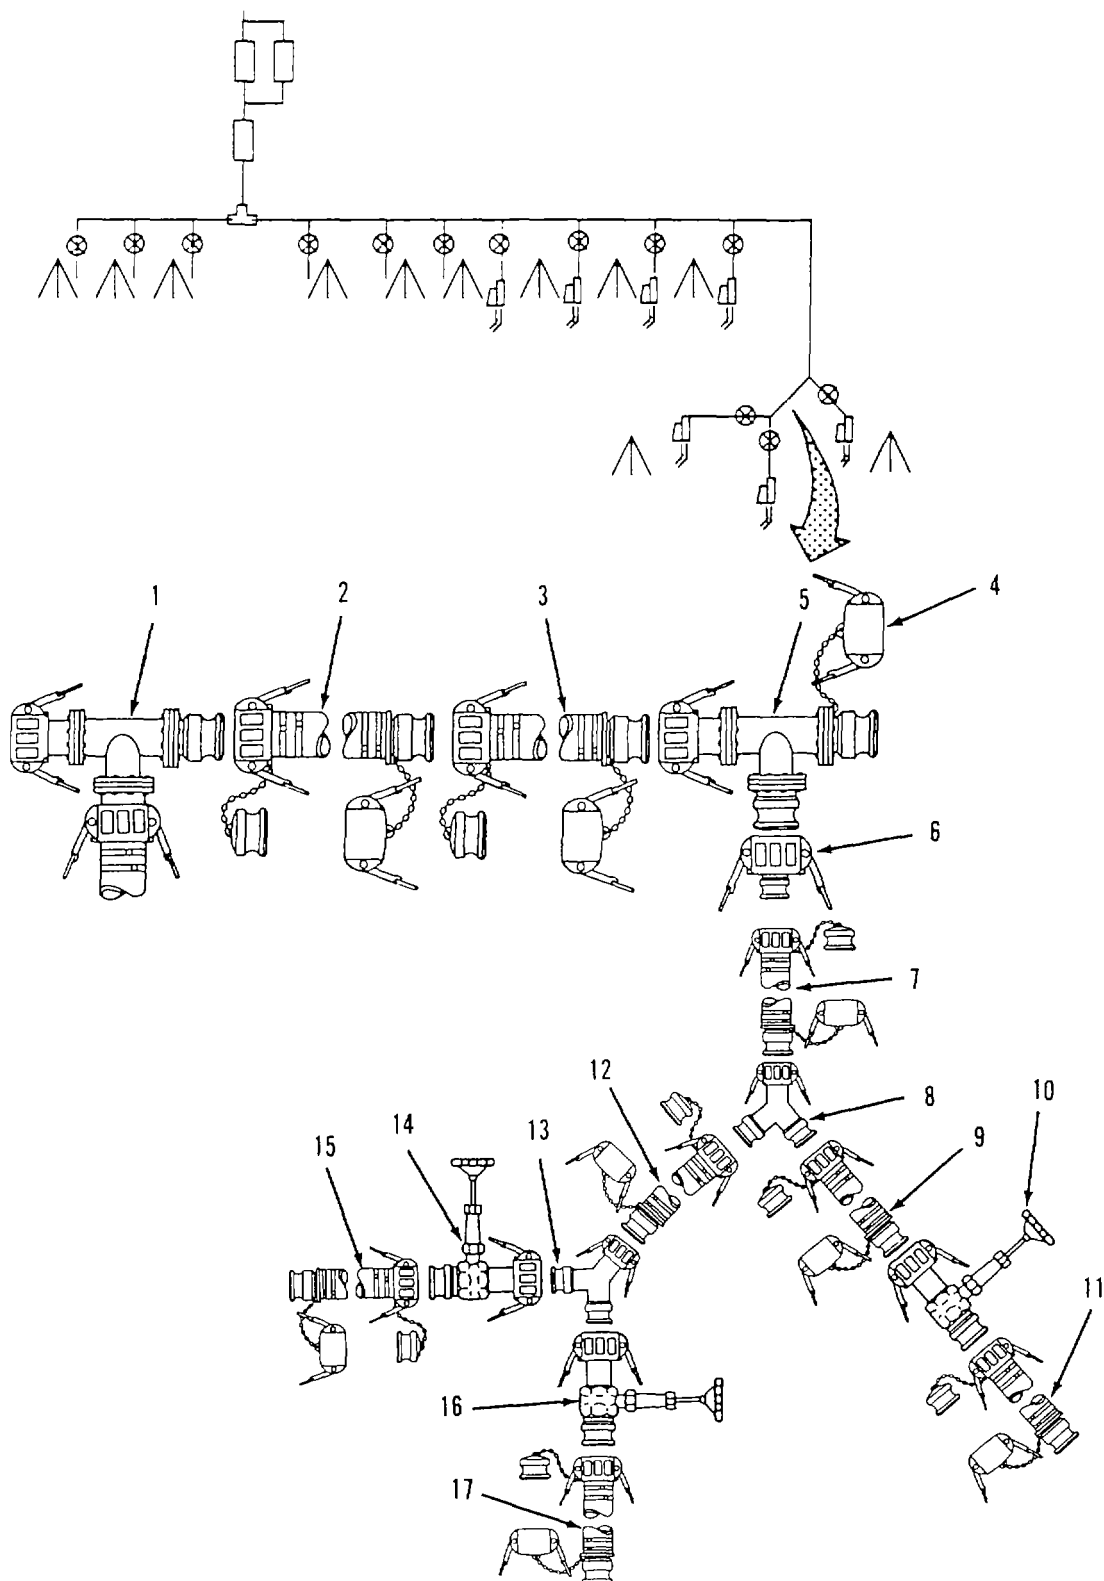

Figure 2-27. Bag Filter Connection Kit Disassembly.
- (4) Disconnect regulator (5) from 1 inch x 10 foot discharge hose (4).
- (5) Disconnect two 1 inch x 10 foot discharge hoses (3 and 4) from adapter (2).
- (6) Disconnect adapter (1-½ inch female x 1 inch male) (2) from 1-½ inch x 25 foot discharge hose (1) (from bag filler connection kit).
- (7) Repeat steps 1 through 6 for remaining hose and nozzle kits.
- (8) Drain and allow components to dry.
- (9) Install caps and plugs on couplings (para 2-10c).
c. Disassemble Bag Filler Connection Kits. Refer to figure 2-27.**WARNING**
- (1) Disconnect 1-½ inch x 25 foot discharge hose (17) from 2 inch gate valve (16).
- (2) Disconnect 2 inch gate valve (16) from wye (13).
- (3) Disconnect 1-½ inch x 25 foot discharge hose (15) from 2 inch gate valve (14).
- (4) Disconnect 2 inch gate valve (14) from wye (13).
- (5) Disconnect wye (13) from 2 inch x 20 foot discharge hose (12).
- (6) Disconnect 2 inch x 20 foot discharge hose (12) from wye (8).
- (7) Disconnect 1-½ inch x 25 foot discharge hose (11) from 2 inch gate valve (10).
- (8) Disconnect 2 inch gate valve (10) from 2 inch x 20 foot discharge hose (9).